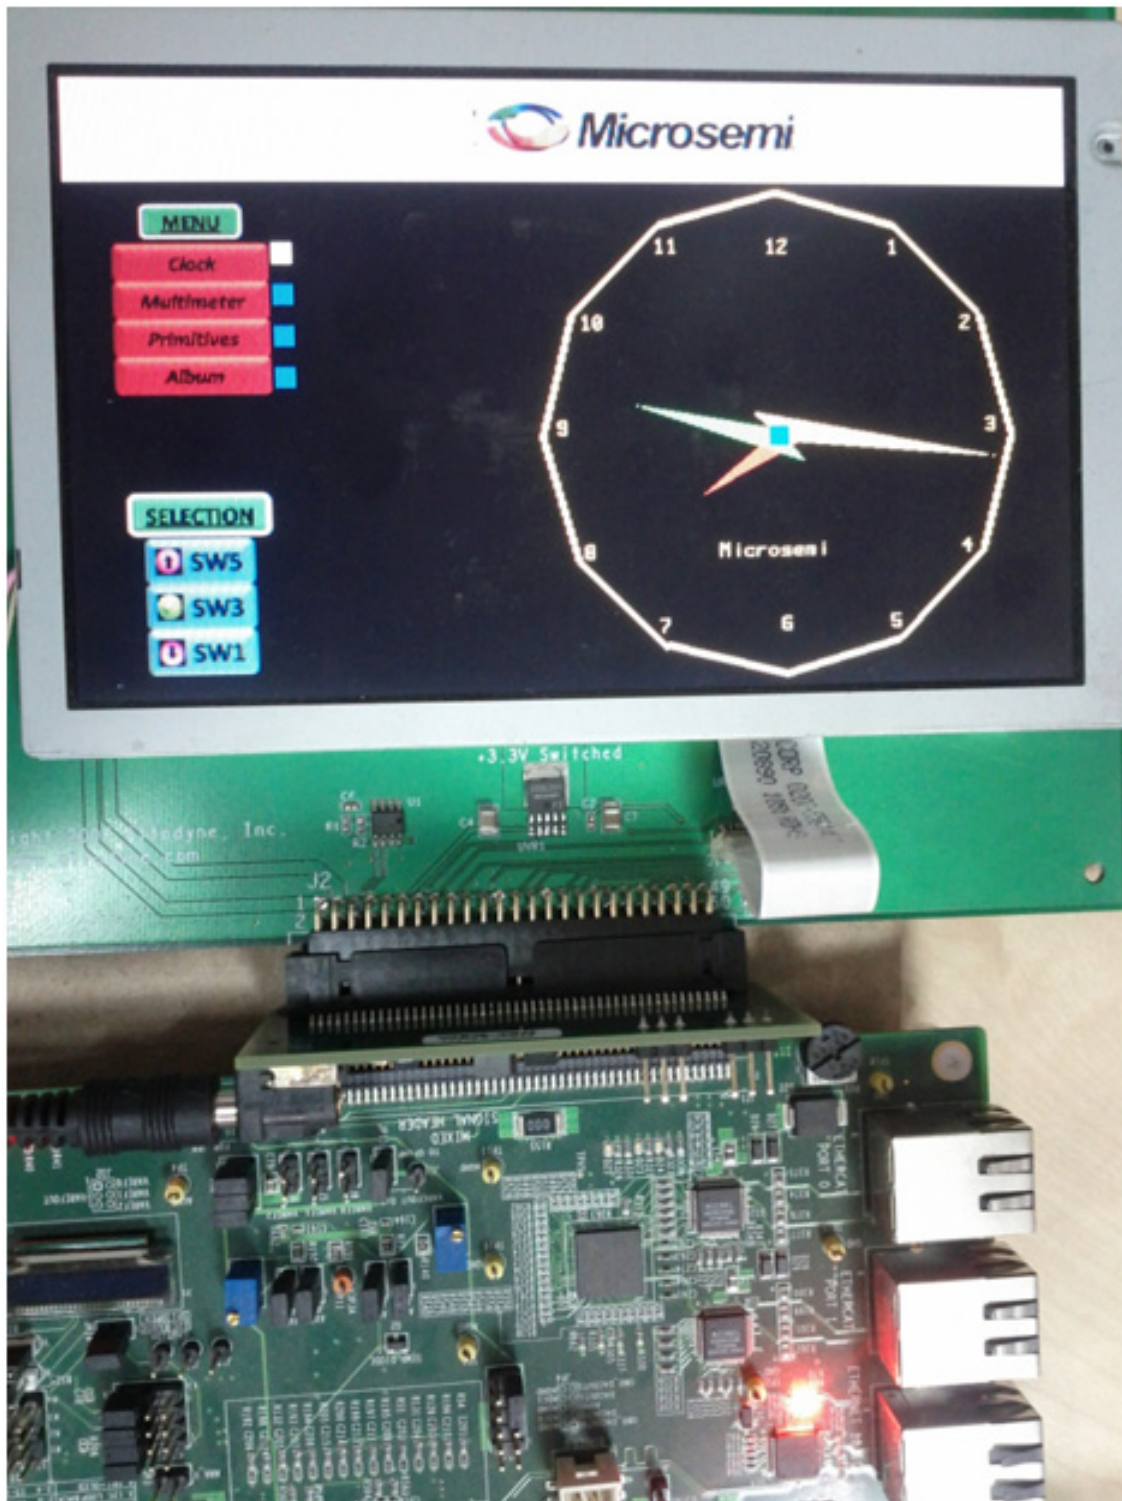

Figure 4-6 • Menu
22. After a few seconds, the display will look similar to Figure 4-6.